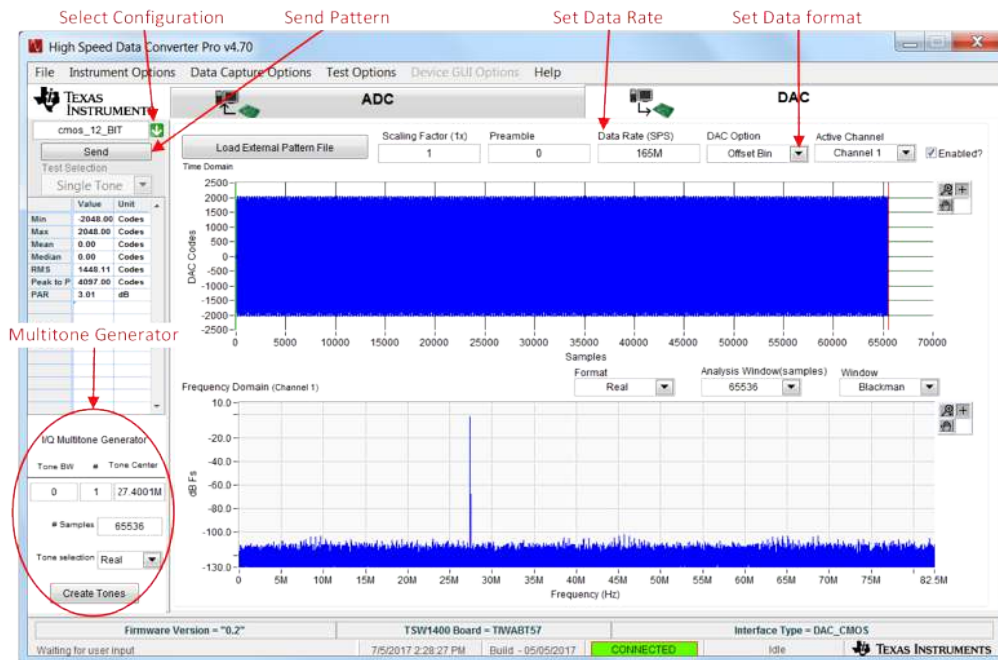

Figure 5. HSDC Pro GUI Main Panel
1. Open High Speed Data Converter Pro by going to *Start Menu* → *All Programs* → *Texas Instruments* → *High Speed Data Converter Pro*. The GUI main page looks as shown in Figure 5.